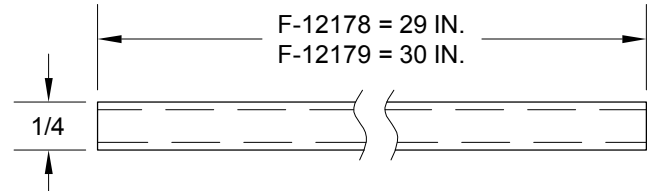

FIGURE 1:
Step 1: Make the F-12178 Pitot Line and the F-12179 Static Line from the PT 1/4OD TUBEX67 per the dimensions called out in Figure 1. Label the parts.